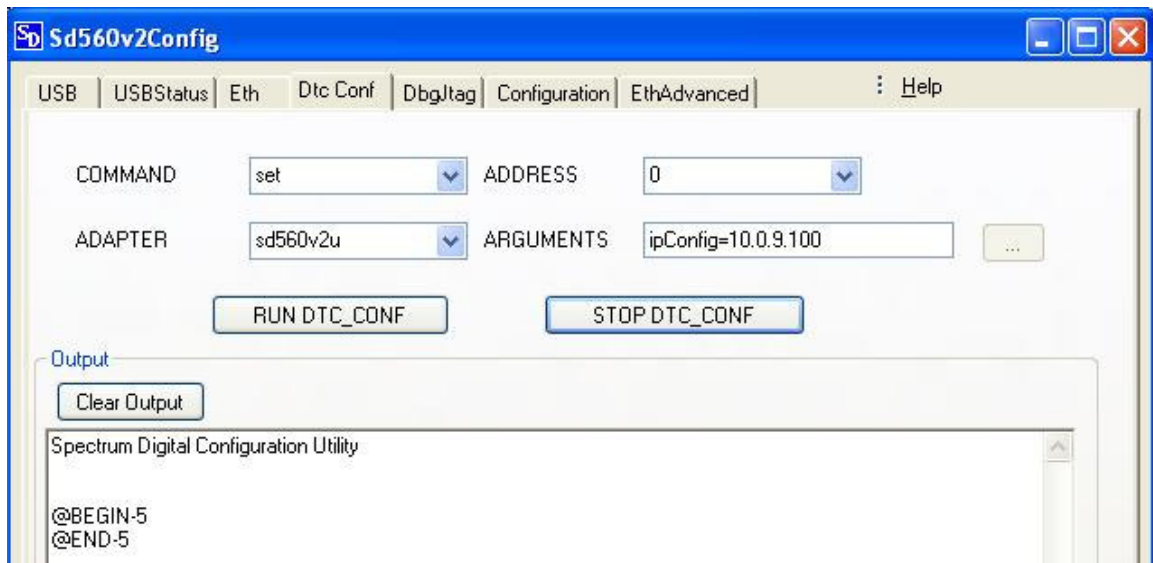

FIGURE 29: Sd560v2Config to set static IP
- Select the port address (0) on which USB is connected to the PC.
- Enter the ARGUMENTS field as ipConfig=<x.x.x.x> where x.x.x.x is the new static IP as shown in figure 29 below. The ipAddress shown is an example. You should contact your network administrator to get the proper static ipAddress for your company network.